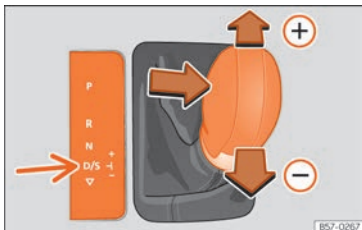

Fig. 222 Centre console: changing gear with tiptronic
- Move the selector lever forwards **+** to select a higher gear »» **Fig. 222**.